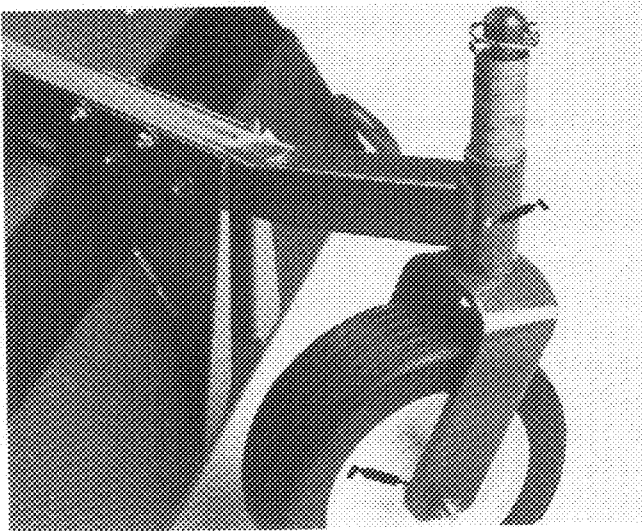

figure 13
GREASE BEARINGS, BUSHINGS AND GEAR BOX (Fig. 13–16)
1. The cutting unit has bearings and bushings that must be lubricated, and these lubrication points are: front castor spindle bushings (Fig. 13); rear castor spindle shaft (Remove shaft from castor arm and coat hex shaft with designated grease every 50 hours (Fig. 14); castor wheel bearings (Fig. 13 & 14); blade spindle bearings (Fig. 15); idler arm pivot (Fig. 15); right and left push arm ball joints (Fig. 15).